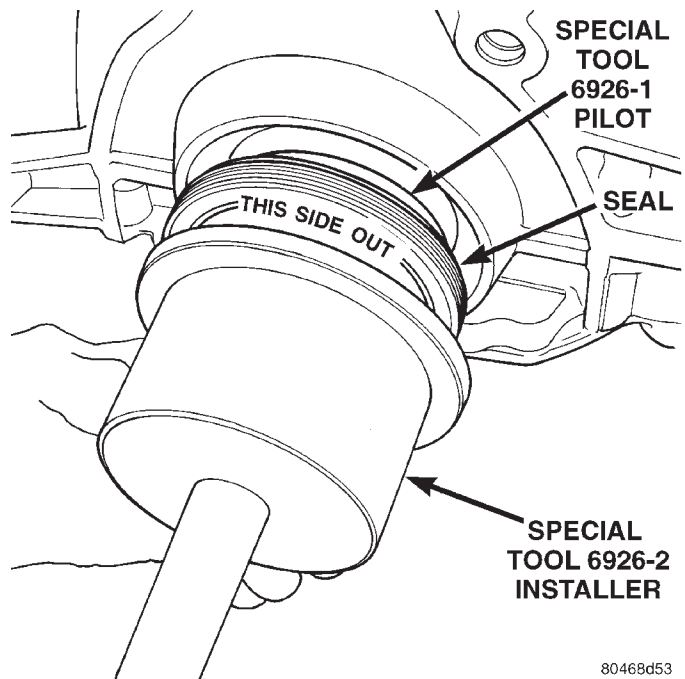
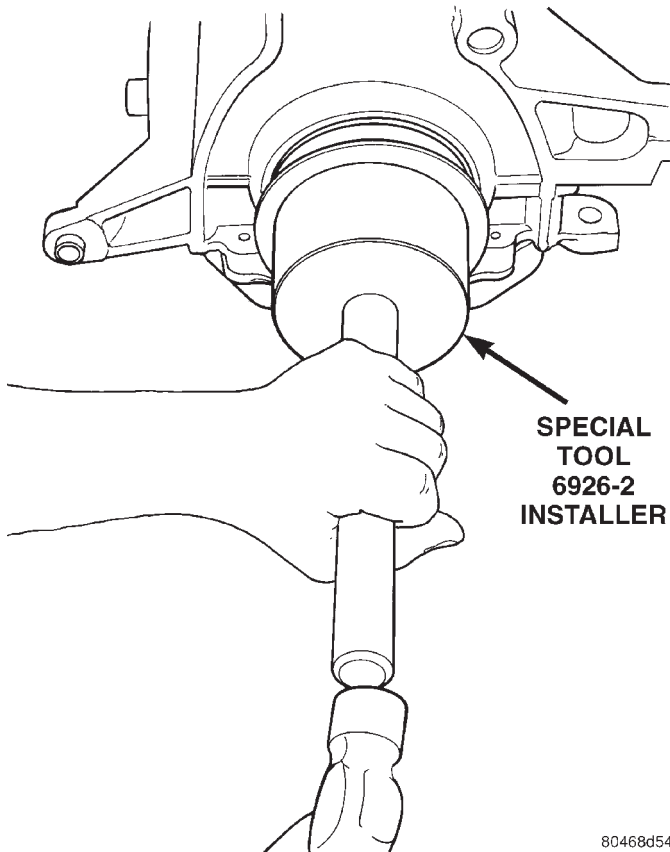

Fig. 72 Crankshaft Seal Special Tool 6926-2
Fig. 73 Rear Crankshaft Seal—Installation
- (3) Drive the seal into the block using Special Tool 6926-2 and handle C-4171 (Fig. 72) until the tool bottoms out against the block (Fig. 73).